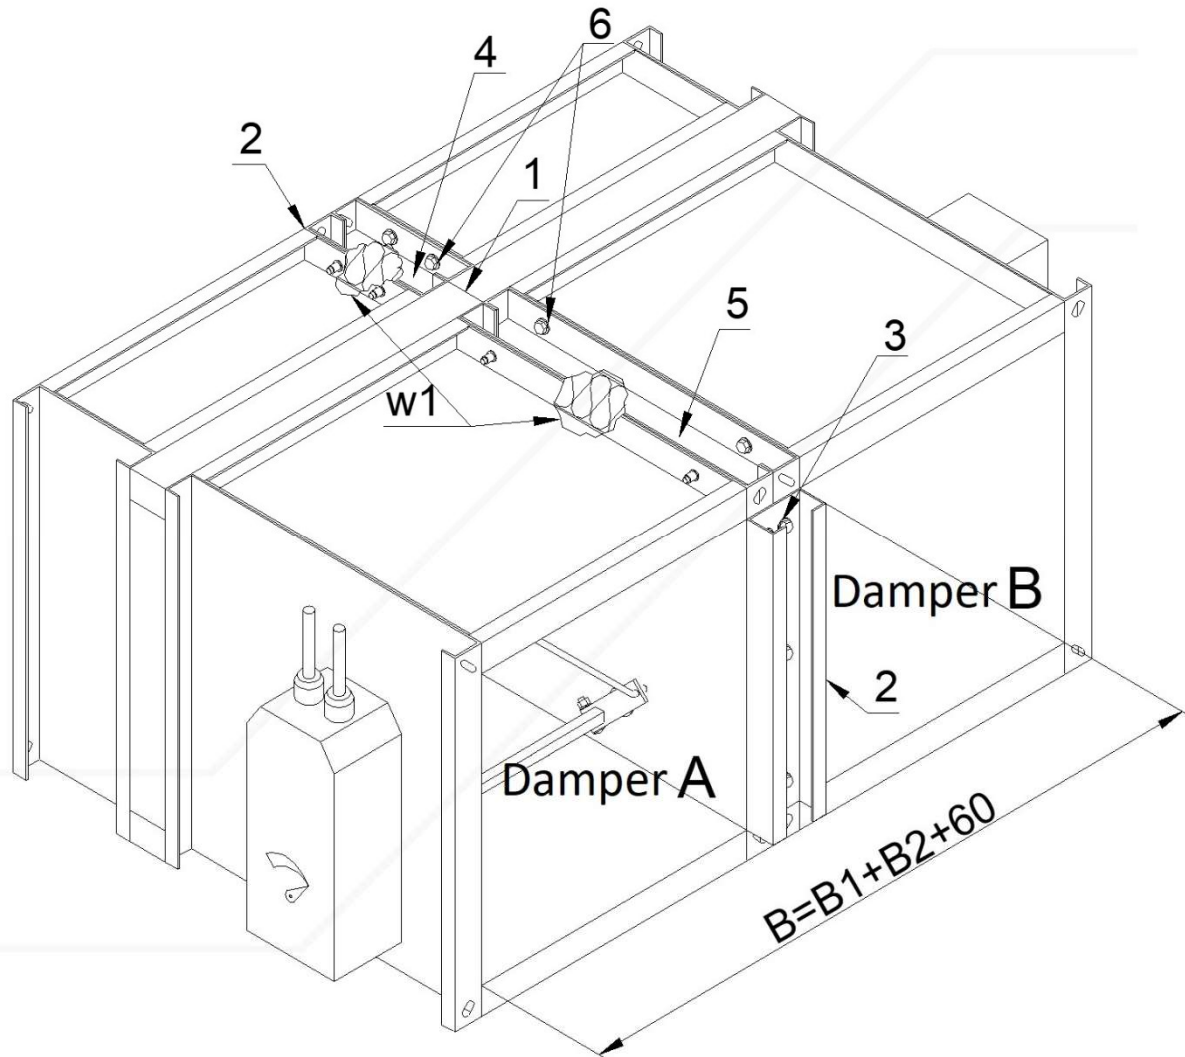

Figure 12. Arrangement 3 – horizontal battery consisting of two fire dampers KWP-O-Ex
Arrangement 2 - vertical battery consisting of three fire dampers KWP-O-Ex (Figure 12)
- Fix the gasket on insulating spacer of one of adjoining fire dampers (position (1) in the Figure 12).